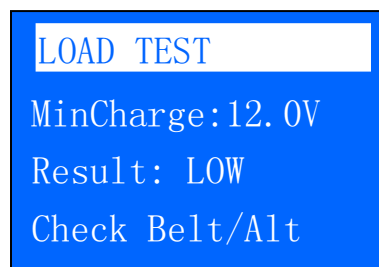

Fig.3
43. If either minimum or maximum charging volts are not within the voltage range limits then it will display one of the screen as below (Fig. 3 & Fig. 4) and it will prompt you to check the alternator system for the fault.